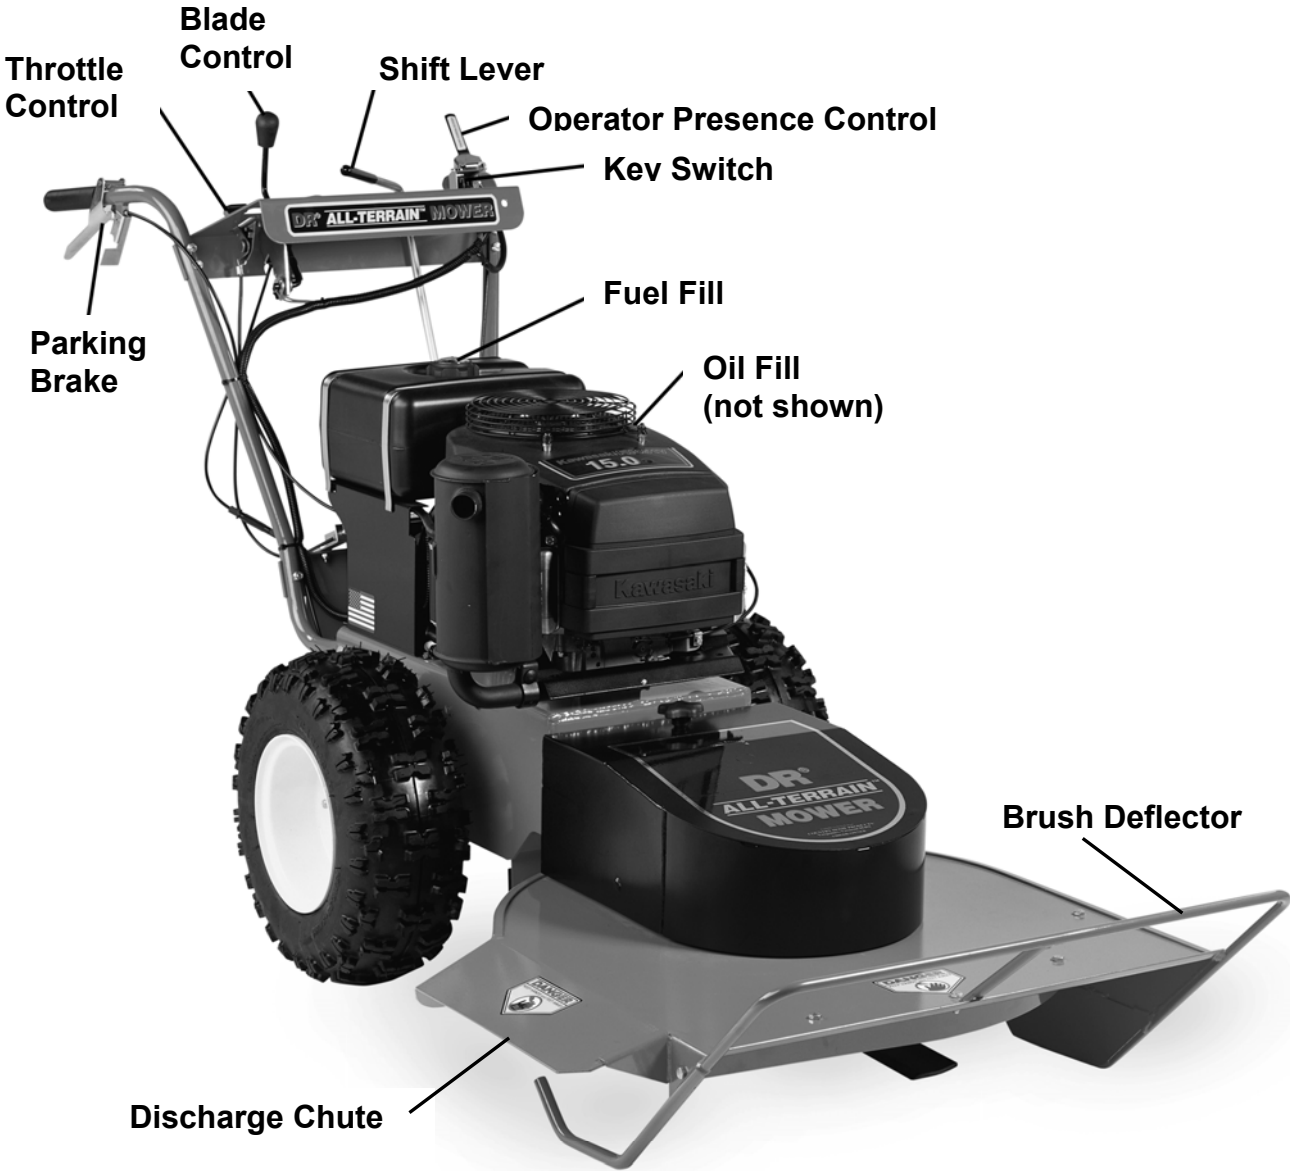

Figure 1
Note: *Kawasaki Model shown.* The model shown in *Figure 1* may look slightly different from your machine.
1. Place the machine on a level surface and initially add ½ of the SAE 30 high detergent oil recommended by the engine manufacturer and wait one minute for the oil to settle. (*Figure 1*)
This chapter covers the procedures for starting and stopping your new DR[®] ALL-TERRAIN[™] FIELD and BRUSH MOWER and discusses basic operation features. You may find it helpful to review the DR[®] ALL-TERRAIN[™] FIELD and BRUSH MOWER Controls and Features picture (*Figure 1*) on page 10 before reading this chapter.
1. Move the shift lever to N (Neutral). See mower picture, *Figure 1*, on page 10. **Note:** Shift lever MUST be in neutral or the engine will not start.
2. Move the throttle (see mower picture, *Figure 1*, on page 10) to the CHOKE position (to the RUN position if the engine is already warm).
3. Turn the key (see mower picture, *Figure 1*, on page 10) to the START position until the engine starts, then release. The key will snap back to the RUN position and the engine will continue to run.
1. Move the throttle (see mower picture, *Figure 1*, on page 10) to the CHOKE position (to the RUN position if the engine is already warm).
2. Turn the key (see mower picture, *Figure 1*, on page 10) to START.
Note: Always release the wheel clutch lever (see mower picture, *Figure 1*, on page 10) when shifting gears.
1. Hold down the operator presence lever (see mower picture, *Figure 1*, on page 10).
Pull the blade control lever (see mower picture, *Figure 1*, on page 10) back to the DISENGAGED position.
1. Disengage the blade by pulling the blade control lever (see mower picture, *Figure 1*, on page 10) back to the DISENGAGED position.